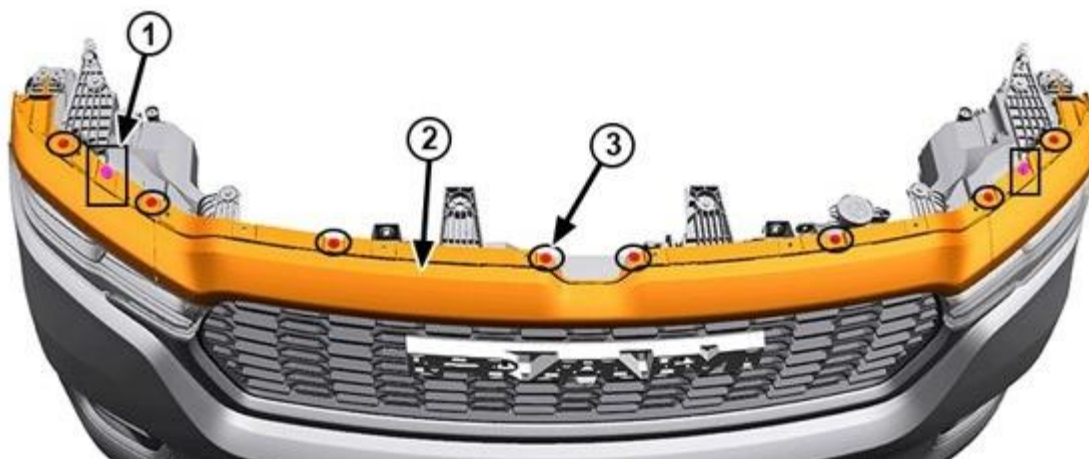

Figure B9 – Grille Upper Trim
14. Remove the bolts and plastic push pin fasteners that secure the grille upper trim (Figure B9).
44. Install the bolts and plastic push pin fasteners that secure the grille upper trim then tighten the bolts securely (Figure B9).